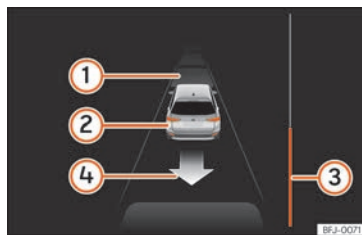

Fig. 286 On the instrument panel display: exit a parallel parking space.
- Reverse until the continuous ParkPilot signal sounds; **OR:** reverse until the instrument panel display shows the forward indication. The progress bar »»» **Fig. 286**  indicates the distance to cover »»» **page 312.**